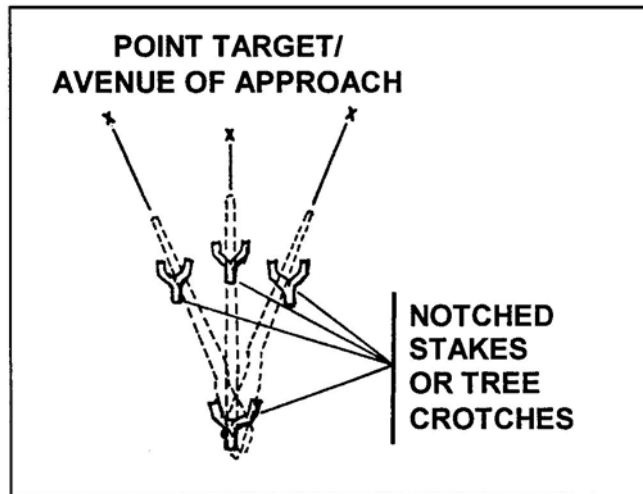

Figure 2. Aiming stakes.
- d. Place additional stakes forward of the stock stake and align each with a target or avenue of approach. Firmly drive each stake into the ground. Adjust the stakes so that, in a firing position, when the rifle is placed on the stock and forward stakes, the fire will strike its intended target (Figure 2). To fire, hold your shoulder firmly against the butt plate and the barrel in the aiming stakes.